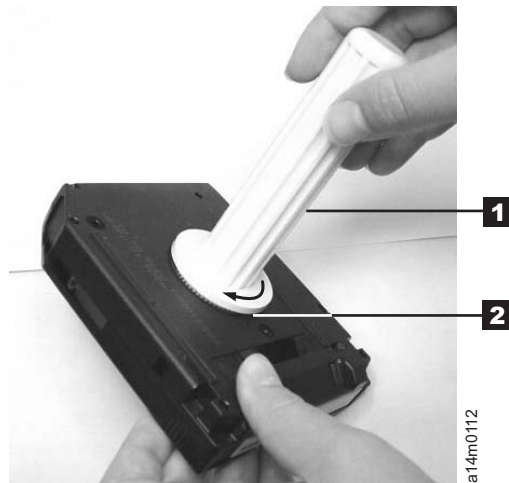

Figure 68. Rewinding the tape into the cartridge
5. To rewind the tape, insert the cartridge manual rewind tool (see **1** in Figure 68) into the cartridge's hub **2** and turn it clockwise until the tape becomes taut.